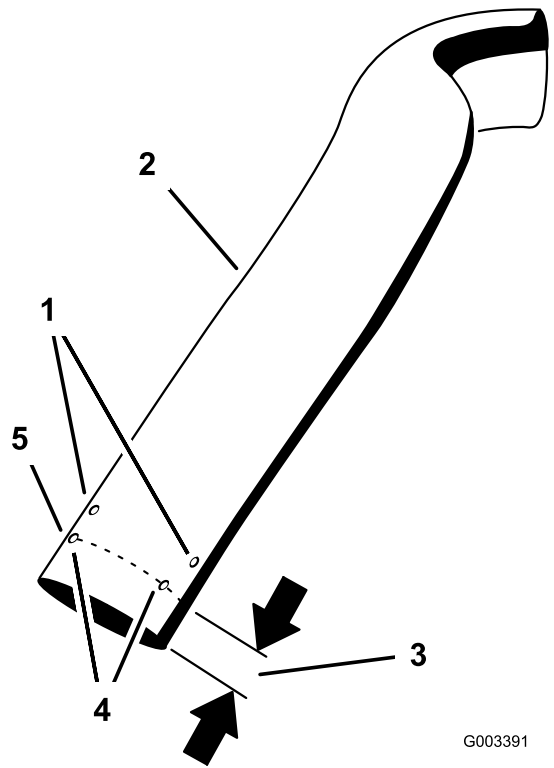

Figure 18
1. Measure up 89 mm (3-1/2 inches) from the bottom of the upper tube. Use the existing 3 holes as marks and then mark it in several places to create a line around the tube (Figure 18).
2. Cut the 89 mm (3-1/2 inches) off the upper tube (Figure 18).